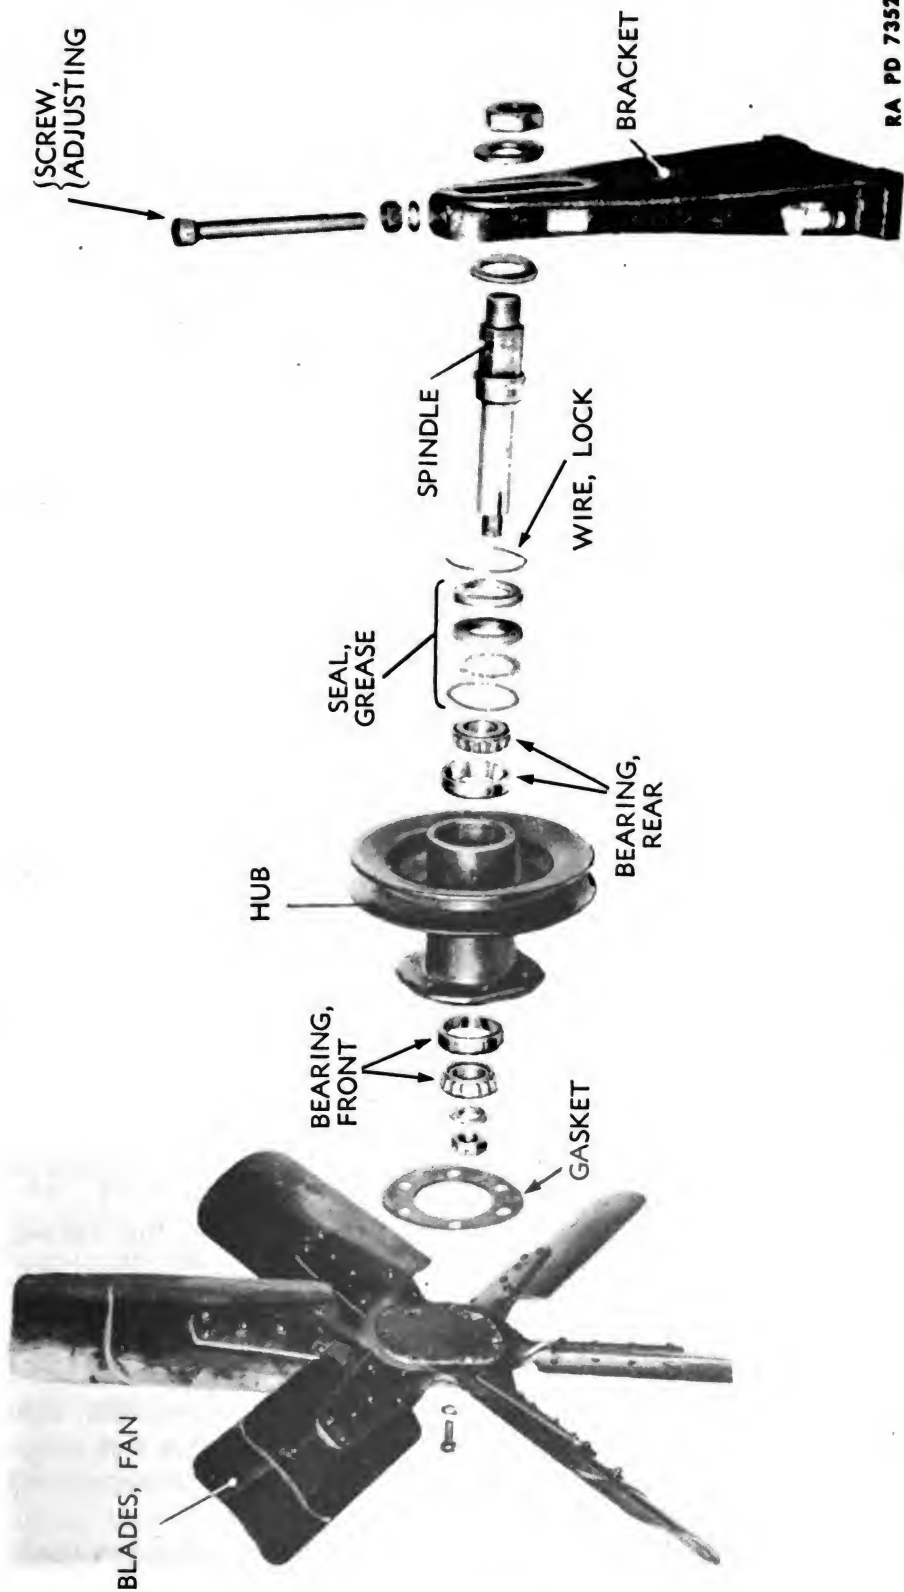

Figure 79 — Fan and Bracket Assembly — Exploded View
ORDNANCE MAINTENANCE – GENERATING UNIT M7**h. Disassembly (fig. 79).**
(1) Keep fan hub filled with lubricant at all times. If grease-lubricated, remove plug and insert fitting to lubricate fan bearings. Replace plug. If oil-lubricated, use hand oiler.
(2) Replace all worn parts.
(3) Tighten loose fan rivets. Carefully straighten bent fan blades. If blades are badly bent, replace fan.
e. Assembly (fig. 79).
(1) Insert front and rear bearing cups and drive them in until they bottom against shoulder. Pack bearing cups and bearings with GREASE, general purpose, No. 2, and place bearings in cups if fan is grease-lubricated.
(2) In order named, install gasket, plain washer, and retainer in fan hub, back of rear bearing.
(3) Secure oil seal washer retainer lock wire in fan hub recess.
(4) Insert spindle in fan hub and replace washer, castellated nut, and cotter pin.
(5) Place fan blade assembly with gasket on fan hub, and install fan cap screws.
(6) Insert fan and hub assembly through slotted washer into slot in mounting bracket, and replace washer and spindle nut.
(7) Install fan adjusting screw with lock nut in top bracket, and thread screw into spindle.
(8) Remove oil plug in fan hub and fill with OIL, engine (seasonal grade), if fan is oil-lubricated.